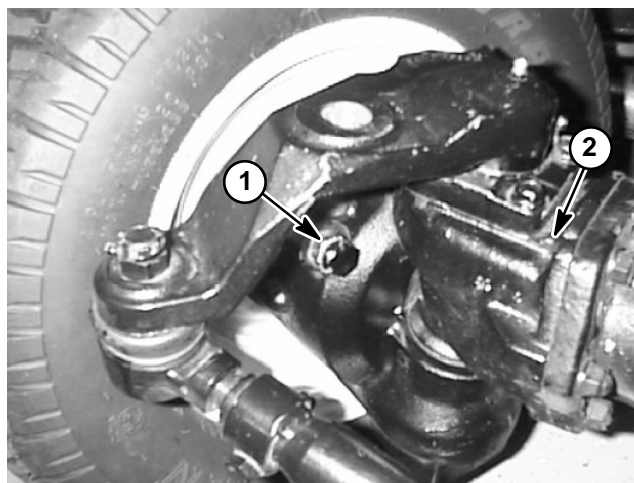

Figure 15
14. Check steering stop bolt adjustment. When the steering cylinder is fully extended (right turn), a gap of 1/16" (1.6 mm) should exist between bevel gear case casting and stop bolt on left axle case. Figure 15 shows stop bolt location.